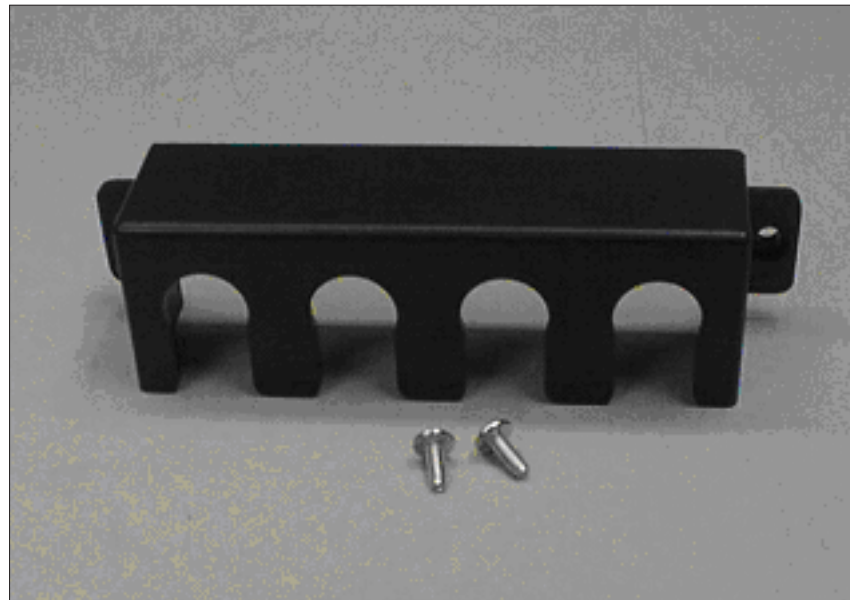

Figure 72. 2145-1U uninterruptible power supply power cable retention bracket hardware
2. Remove the bracket and the two screws (shown in Figure 72) from the packaging.